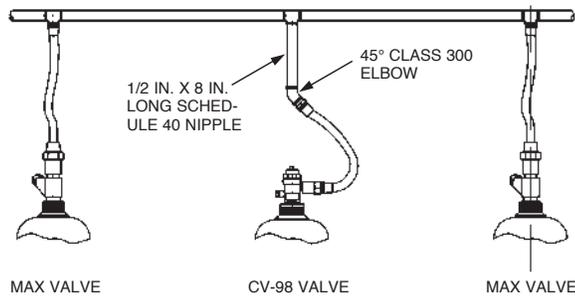

FIGURE 12-1
12. Install the container in its bracket. If the original system consists of a MAX valve, refer to Figure 12-1 for guidance to convert the manifold to accept a CV-98 container valve.